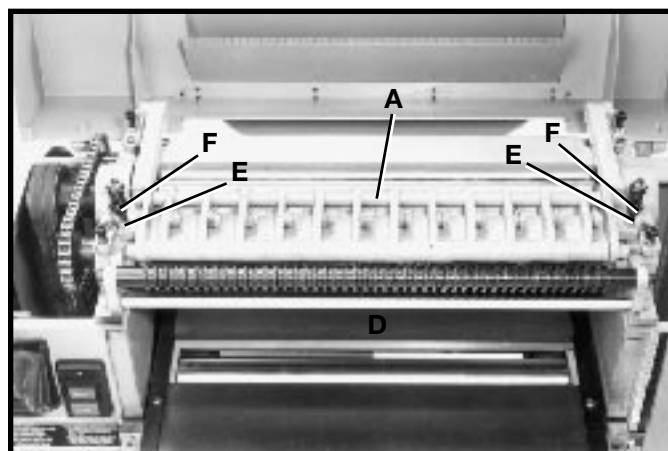

Fig. 37
The chipbreakers (A) Fig. 37, are located on top of the planer and extend downward around the front of the cutterhead. The chipbreakers will raise as stock is fed through the planer and “breaks or curls” the wood chips. The bottom of the chipbreakers must be parallel to the knives and set .040 below the cutting circle. To check and adjust the chipbreakers, proceed as follows:
5. If an adjustment to the chipbreakers is necessary, loosen two hex nuts (E) Fig. 37, and turn adjustment screws (F) until chipbreakers (A) touch gage block (B) at both sides of the table.